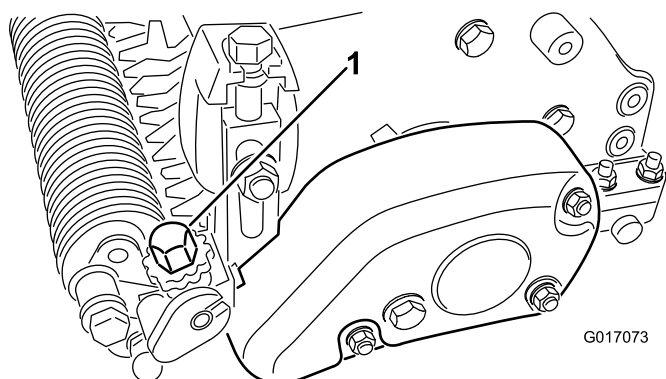

Figure 22
5. On one end of the groomer shaft, measure the distance from the lowest tip of a groomer blade to the work surface. Turn the groomer height adjusting knob (Figure 22) to raise or lower the blade tip to the desired grooming height. Each notch on the adjusting knob